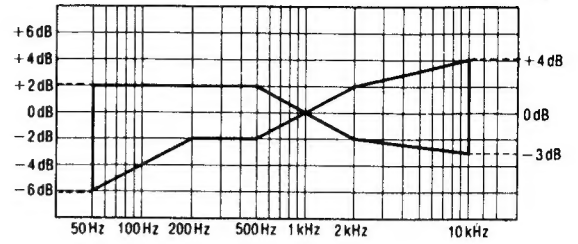

Fig.8
5. Playback the recorded signal and assure that it is within the range shown in **Fig.8** in comparison to the reference frequency (1 kHz).